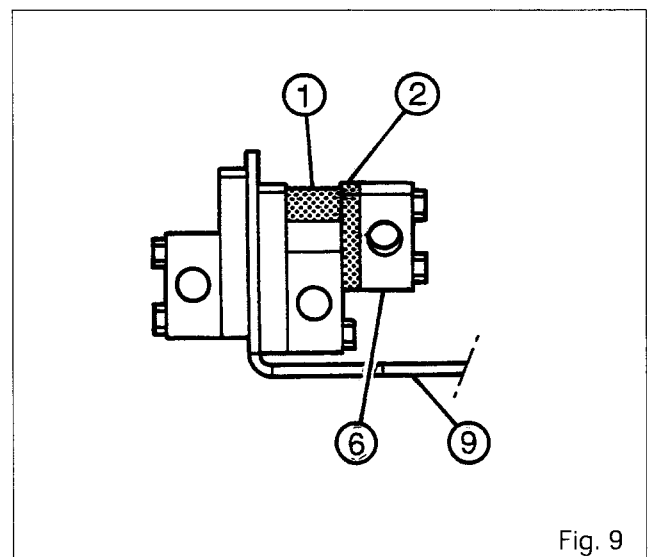

Fig. 9
10. Insert the cable into the attachment point (6).
Note : When the attachment (6) is offset (with the spool valves in the floating position), fit the spacer (1) and the plate (2) as shown in Fig. 9.
11. Screw the clevis (1) level with the threaded section of the cable (2) and fit the link rod A or B of the lever L concerned. Position the clip (7).
On spool valves (Fig. 9)